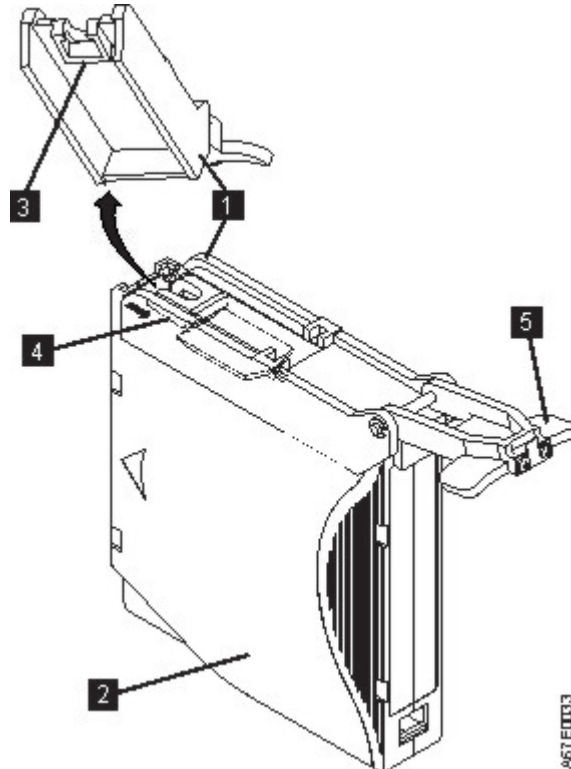

Figure 15. Attaching the leader pin attach tool to the cartridge
1. Attach the leader pin attach tool (1 in Figure 15 on page 70) to the cartridge (2) so that the tool's hook (3) latches into the cartridge's door (4). Pull the tool back to hold the door open, then slide the tool onto the cartridge. Open the tool's pivot arm (5).